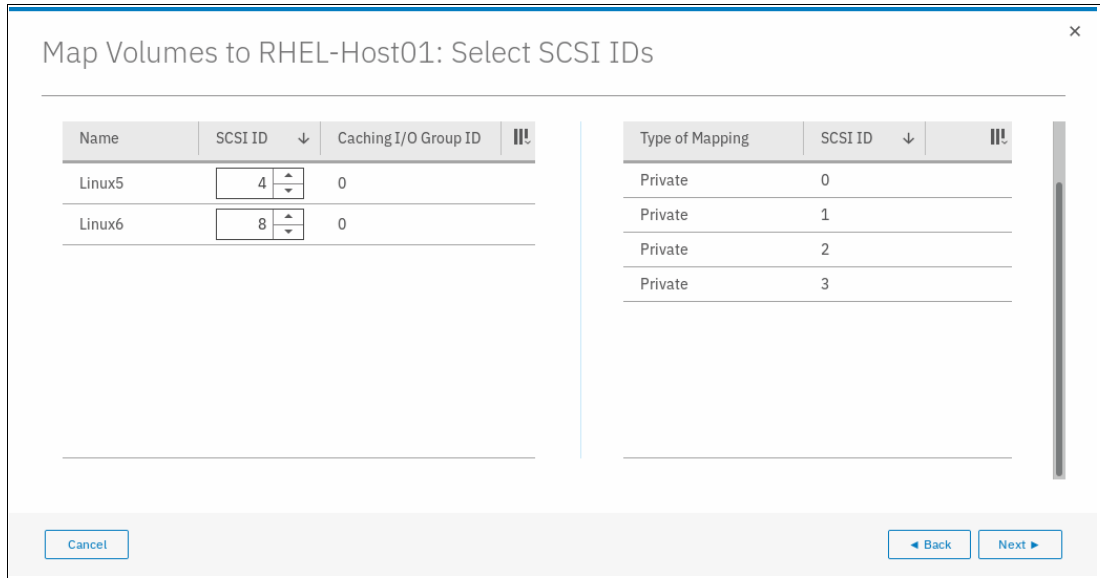

Figure 8-7 Selecting the SCSI ID for the mapping
- Click **Next**. As shown in Figure 8-7, a window opens in which the user can provide the SCSI ID to be used for the mapping. The right side of the window also shows the current SCSI IDs that are used for mapping other volumes to the same host.